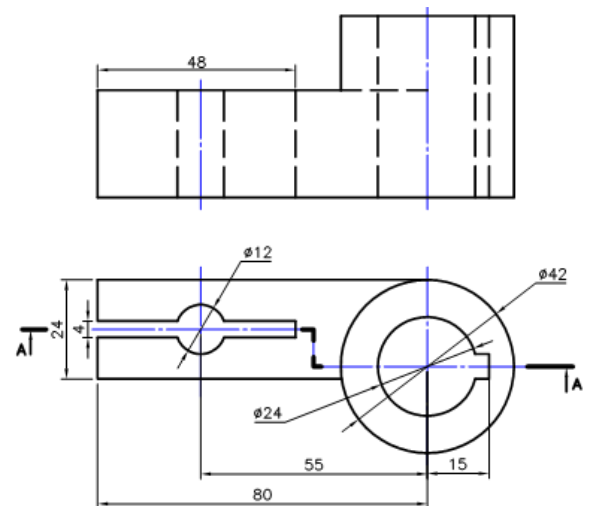

Figure 10.3
3. Draw offset sectional view at A-A from the given views in Figure 10.3.